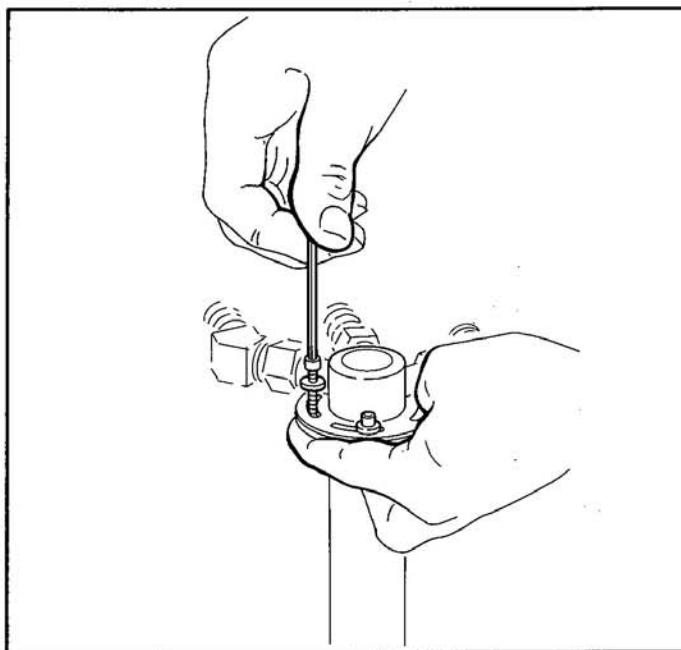

Fig. 13
22. Insert the five mounting bolts (with washers) through the slots in the Warmer flange, and use a hex (Allen) wrench to "pop" them through the gasket. See Fig. 13.